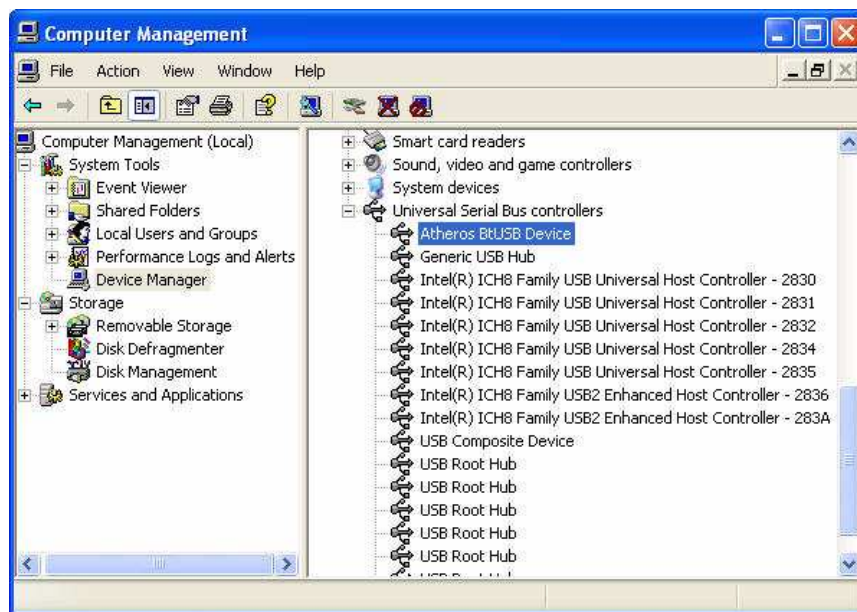

Figure 1-20. Checking the Bluetooth USB Driver Under Device Manager
2. Scroll down to **Universal Serial Bus controllers** and expand it. The Atheros BtUSB Device driver will be present as shown in Figure 1-20.
2. Scroll down to **Universal Serial Bus controllers** and expand it. The Atheros BtUSB Device will be present as shown in Figure 1-20.